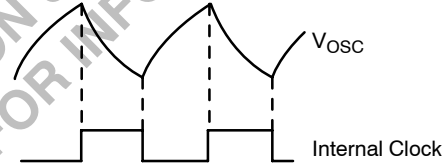

Figure 7. Oscillator Timing Network and Parameters
**ELECTRICAL CHARACTERISTICS (continued)** ( $-25^{\circ} \leq T_A \leq 85^{\circ}$  for CS2842A/CS2843A,  $0^{\circ} \leq T_A \leq 70^{\circ}$  for CS3842A/CS3843A.  $V_{CC} = 15\text{ V}^*$ ;  $R_T = 680\ \Omega$ ,  $C_T = 0.022\ \mu\text{F}$  for triangular mode,  $R_T = 10\ \text{k}\Omega$ ,  $C_T = 3.3\ \text{nF}$  for sawtooth mode (see Figure 7); unless otherwise stated.)